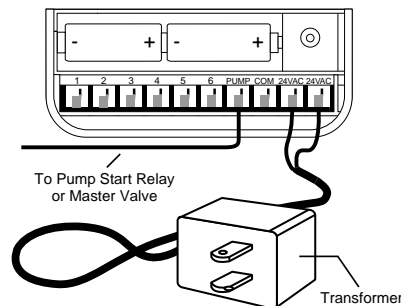

FIGURE 2: Connecting Pump Start, Master Valve and Transformer
- Plug in the transformer [See Figure 2].